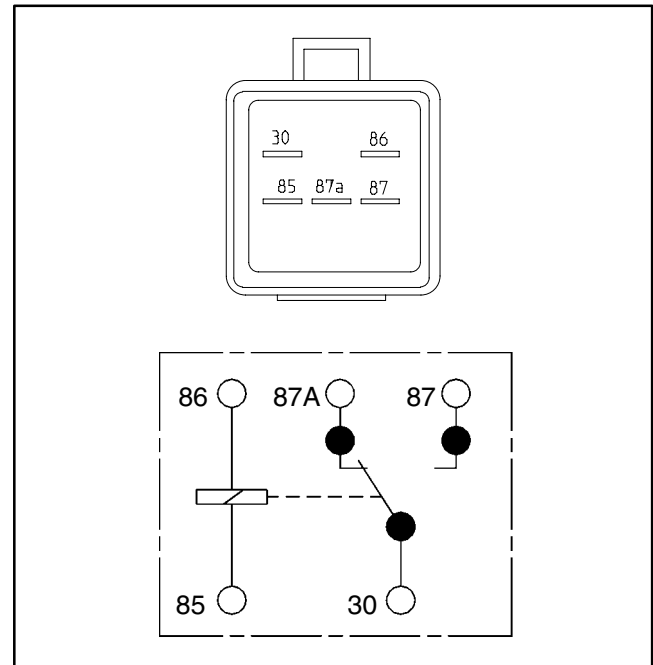

Figure 10
2. Using a multimeter (ohms setting), measure coil resistance between terminals 85 and 86 (Fig. 10). Resistance should be between 70 and 90 ohms.